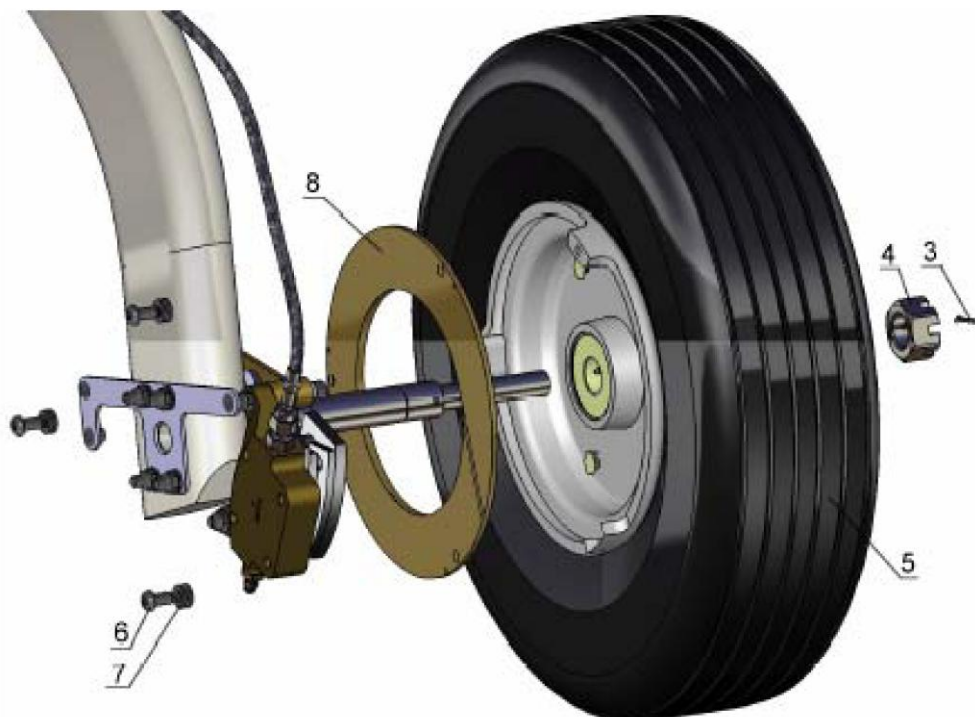

Fig 3
- Remove lock pin item 3 fig.3, unscrew nut item 4 fig.3.
- Unscrew 3 screws item 6, remove nord-lock washers item 7 fig.3.